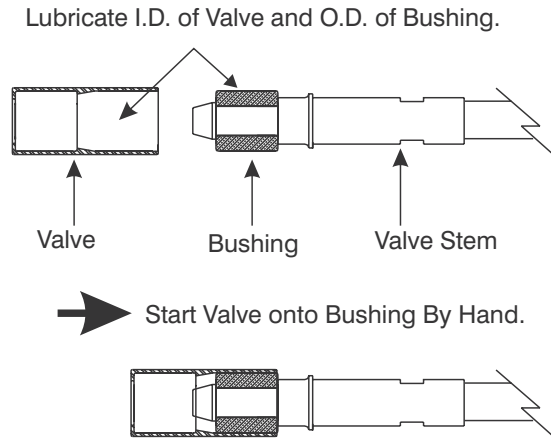

Figure 9-13. Install Valve on Bushing.
4. Lubricate the outside of the Valve Bushing (4) and the inside of the Valve.
5. With the larger bore toward the Valve Stem, slide the Valve over the Bushing as shown in Figure 9-13.